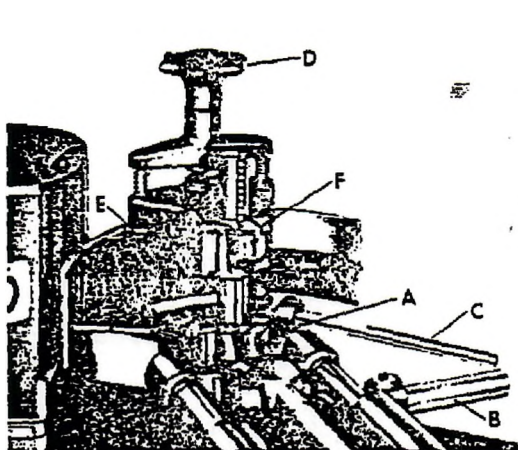

Figure 5
- A. Tighten Screw (A-Figure 5) securely into the V-groove in the Lower Shoe Clamp. Fixed Anchor Attachment (Figure 7) must be removed.
- B. Back off the Clamping Knob (D-Figure 5) until the Upper Locating Buttons (E-Figure 5) are retracted all the way up. Depress the Thumb Lever (F-Figure 5) and raise the Upper Shoe Clamp until the shoe will fit between the Upper and Lower Locating Buttons.